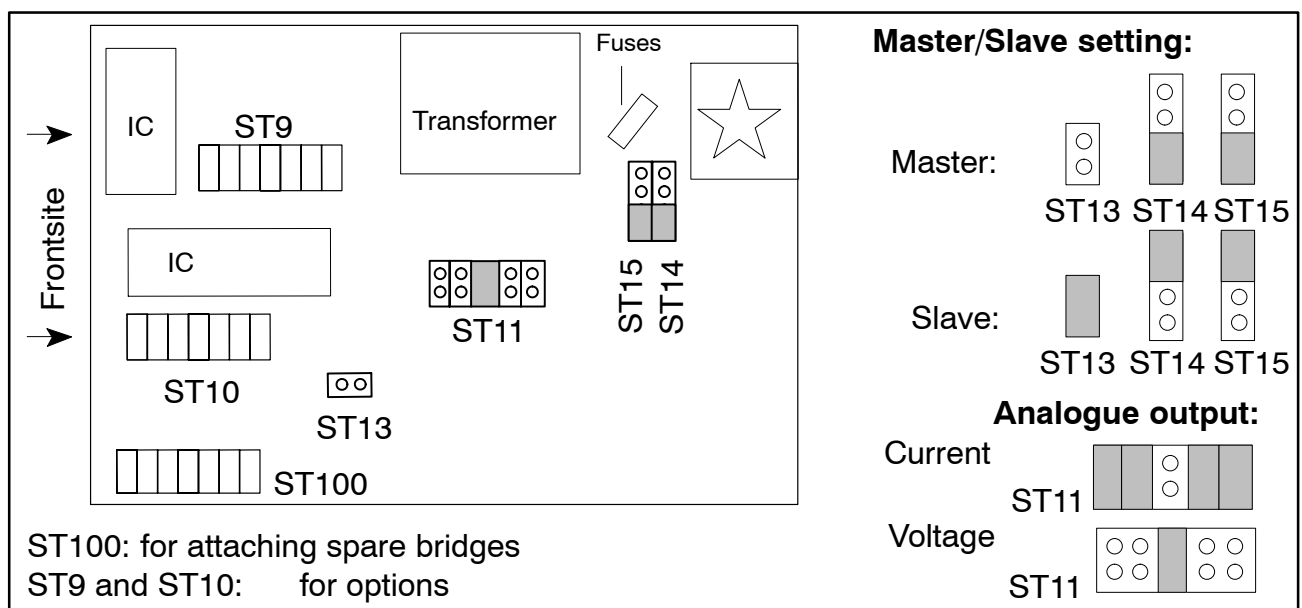

Fig. 2.1: Location of jumpers on motherboard
- 3 Change whichever setting is relevant to you with the aid of the jumpers, by following Fig. 2.1
Select the analogue output signal (voltage or current) by replugging jumpers ST11 (see Fig. 2.1). Choose between ± 20 mA or 4...20 mA in the control dialogue.
To synchronise several devices, set one device as the Master. All the other devices should then set to Slave. The “Master” and “Slave” selections are made with jumpers ST13, ST14 and ST15 (see Fig. 2.1).